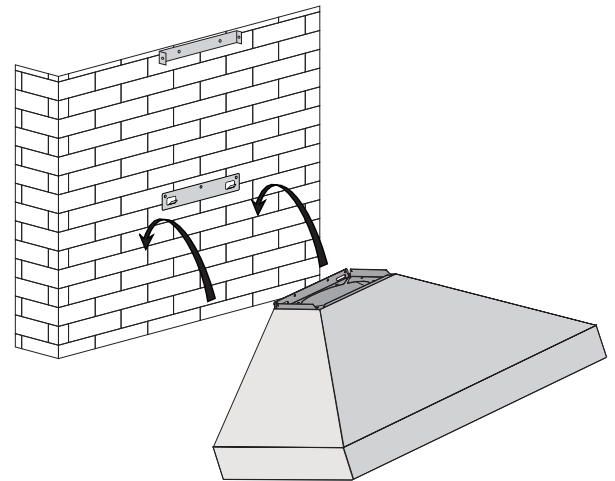

Figure 4
- Hang the range hood on the hooks of the hood mounting bracket (see Figure 4).